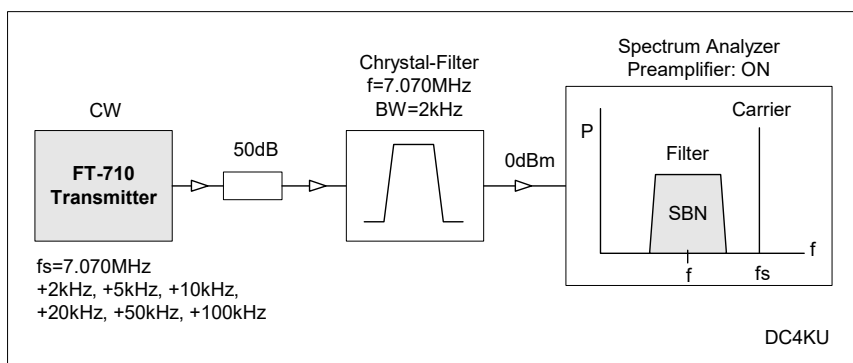

**Figure 21: Transmitter noise signal at 100 watts (yellow) and 40 watts (purple), 14.2MHz (SSB)**
The occupied bandwidth and intermodulation of a transmitter can also be determined via a noise signal (5). A low-frequency, white noise band is fed into the microphone input as a modulation signal and the transmitter is adjusted to maximum power. Figure 21 shows the result of the measurements. The almost rectangular block (envelope) in the middle of the spectrum shows the bandwidth of the used SSB filter, dominated by white noise. Theoretically, both flanks should run steeply down to the